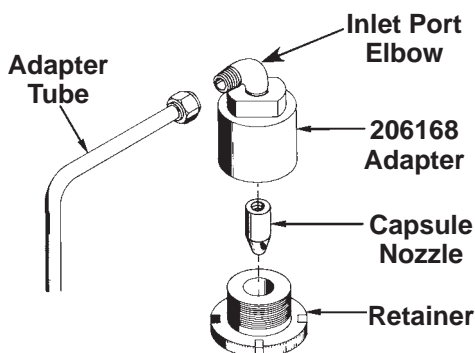

Figure 6
1. Load the capsule nozzle into the adapter as shown in Figure 6. Firmly fasten the adapter to the adapter tube.